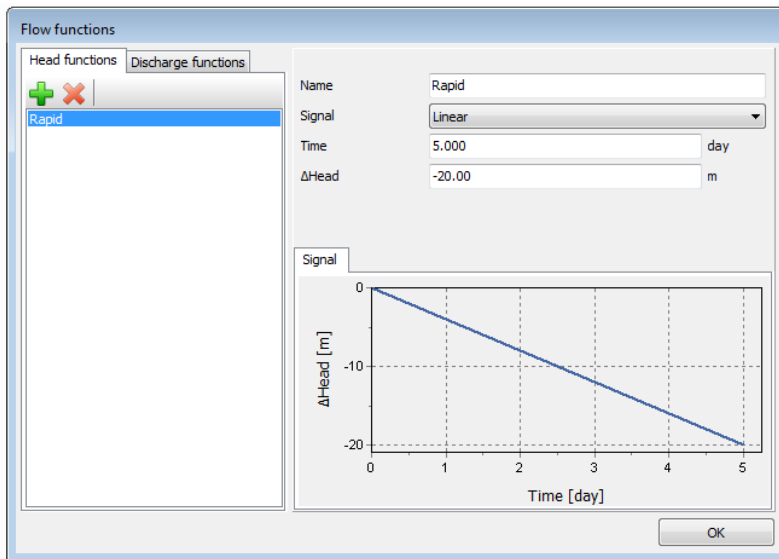

Figure 6.6 The flow function for the rapid drawdown case
- Specify a time interval of 5 days. A graph is displayed showing the defined function (Figure 6.6).